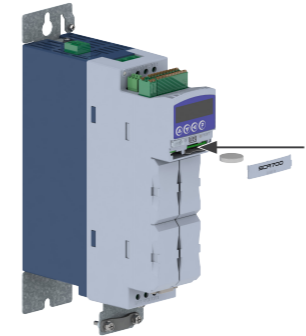

Figure 9.4: Location of CR2032 battery
- Remove the Slot 0 cover as shown in Figure 9.4.